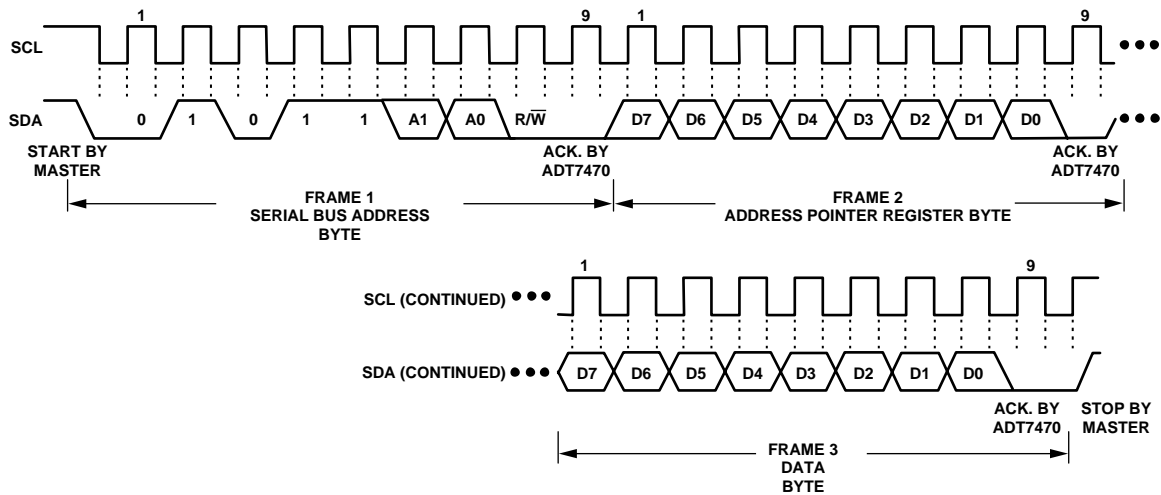
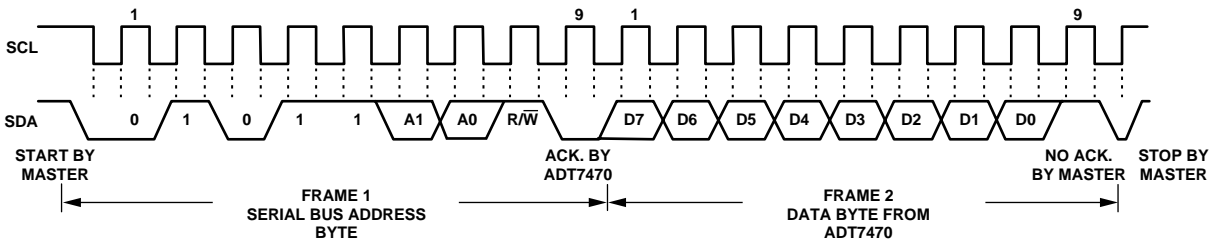

Figure 7. Writing a Register Address to the Address Pointer Register, then Writing Data to the Selected Register
Figure 9. Reading Data from a Previously Selected Register
This is illustrated in Figure 7. The device address is sent over the bus followed by R/W set to 0. This is followed by two data bytes.
A read operation is then performed consisting of the serial bus address, R/\overline{W} bit set to 1, followed by the data byte read from the data register. This is shown in Figure 9.
- In Figure 7 to Figure 9, the serial bus address is shown as the default value 01011(A1)(A0), where A1 and A0 are set by the address select mode function previously defined.